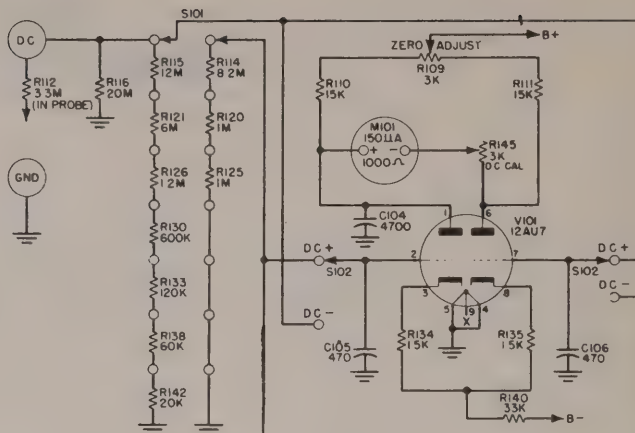
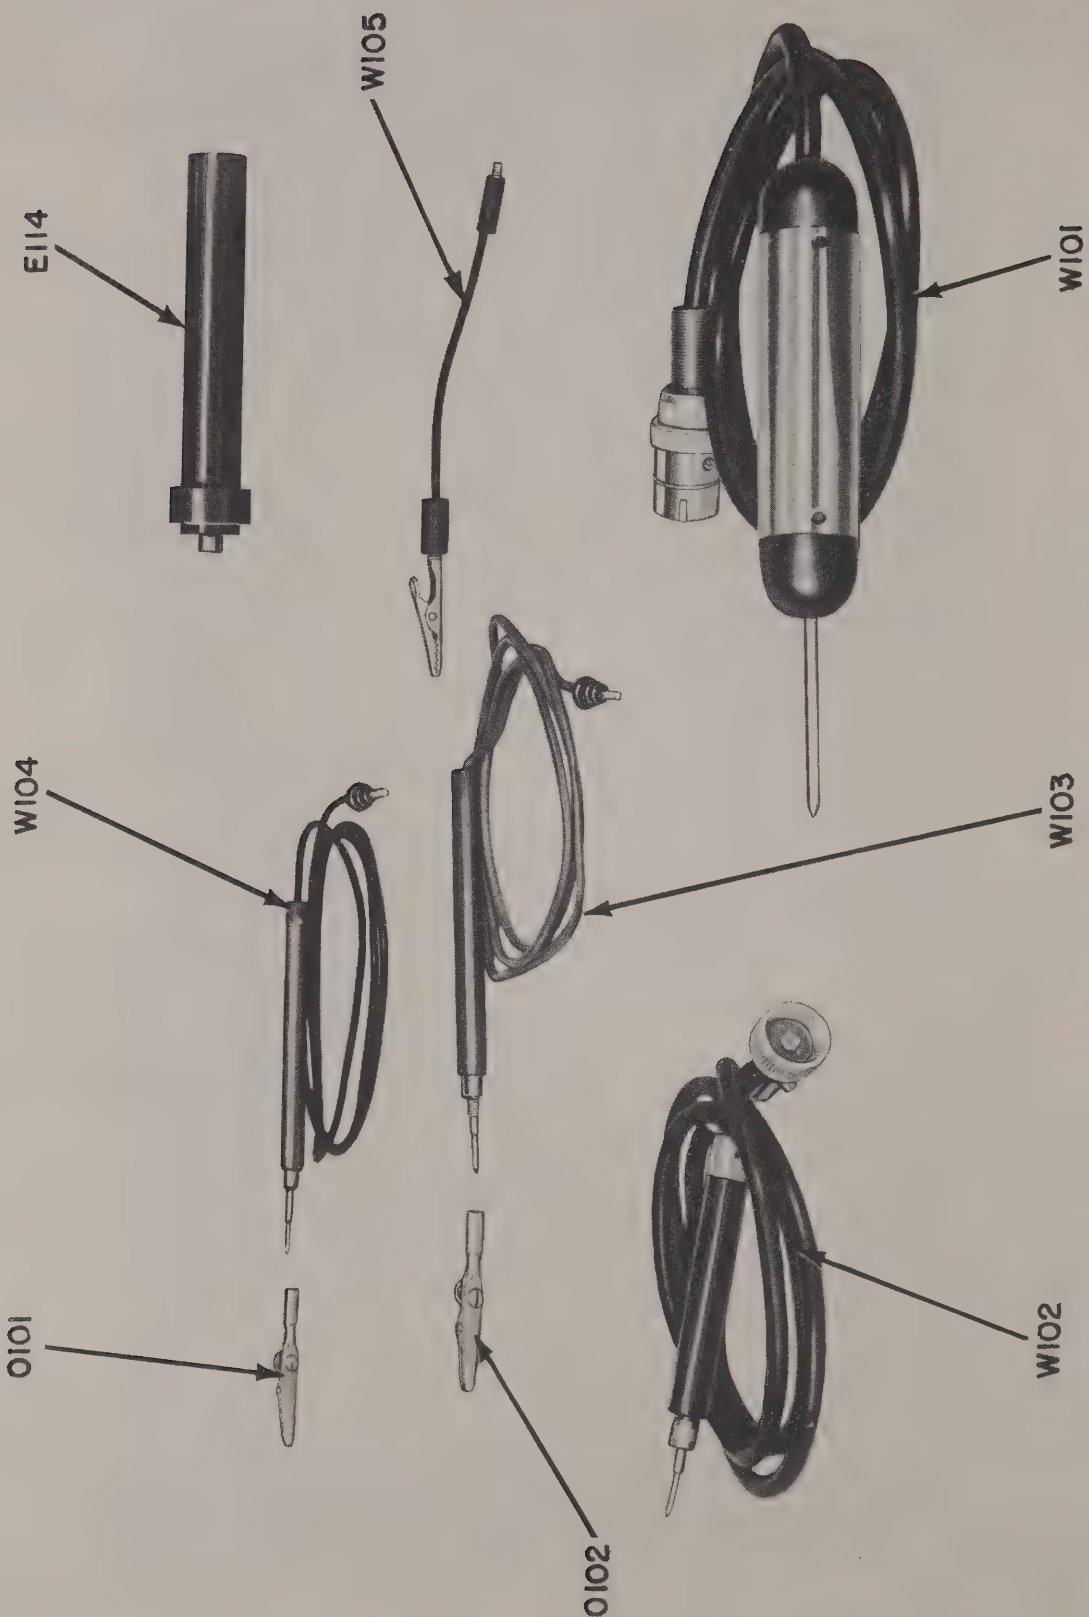

Figure 2-3. DC Voltmeter Circuit
Figure 3-4. Operating Test Cables
b. DC VOLTMETER CIRCUIT. (See Fig. 2-3)
through the DC probe illustrated in Figure 2-3. This probe carries an isolating resistor of 3.3 megohms, R112, to prevent capacity loading of the circuits under test. For 5000 volt DC measurements the voltage extension probe, MX-1101/U (E114), illustrated in Figure 3-4, is screwed on the end of the regular DC probe. This high voltage probe contains an isolating and voltage dropping resistor of 53.2 megohms. Voltages to be measured are applied from the probe to the high end of the voltage dividing network on RANGE SELECTOR switch S101. Voltages from this network are taken to grid pin 7 of V101 for measurements of DC voltages positive with respect to ground, and to pin 2 of V101 for measurements of voltages negative with respect to ground.
The voltage dividing network of S101 is shunted to ground by means of R116, a 20 megohm resistor, as the sensitivity of the measuring networks is such that this value of resistance is required to effect proper calibration. An additional section is used on S101 and comprises R114, R120 and R125 which are used respectively on the 1, 2.5 and 10 volt ranges. The purpose of these resistors is to permit a small amount of contact potential to be developed on the grid which is not being used in connection with the main voltage dividing network section of S101. Figure 2-3 illustrates that the unused or inactive grid is connected to the slider arm on this section of the switch. Both grids, pins 2 and 7, are bypassed to ground by C105 and C106 respectively. The purpose of these bypass condensers is to prevent any possible stray AC which might be picked up and fed to the grids affecting the calibration of the equipment.
(1) Make certain that all test leads, as illustrated in Figure 3-4, are in the cover of the instrument. Carefully check for mechanical damage to connectors or cables.
(2) Loosen the eight screws securing the instrument to the case and inspect chassis to make certain that all tubes are undamaged and in their proper sockets.
(3) Give the entire equipment a careful mechanical inspection to make certain there are no damaged components.
(4) Replace instrument in case.